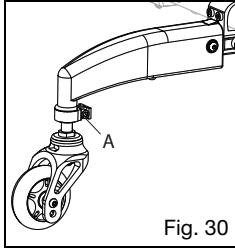

Fig. 30
- b. Loosen the 6mm bolt in the clamping ring (Fig. 30:A).
- d. Retighten the 6mm bolt in the clamping ring (Fig. 30:A).